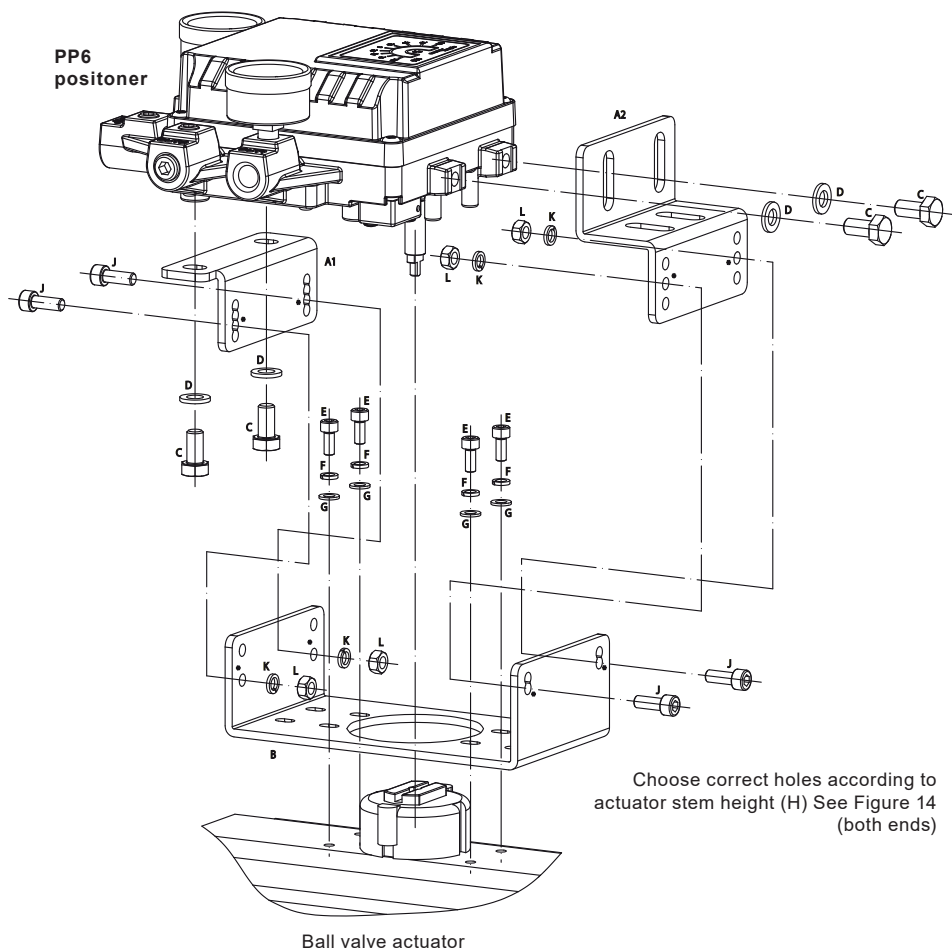

Fig. 13 Positioner and mounting kit
1. Spirax actuator (BVA300) stem height is 30mm, assemble brackets as shown in Fig. 13
2. Please note, set rotation position of the actuator stem as shown in Fig. 13 when assembling, especially important for double acting actuators.